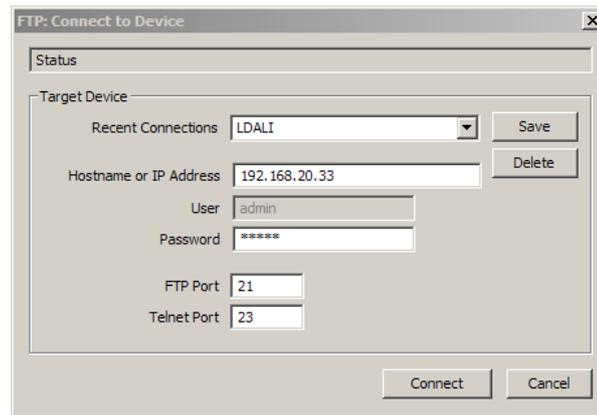

Figure 164: FTP connection dialog.
2. Select the menu: **Connection → Connect via FTP**. This opens the FTP connection dialog as shown in Figure 164.